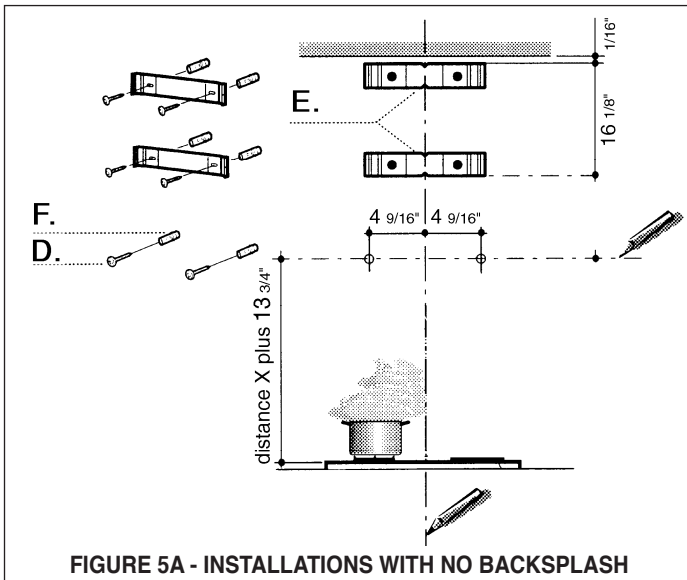

FIGURE 5A - INSTALLATIONS WITH NO BACKSPLASH
3. Based on your ceiling height and/or personal preference, determine the distance you would like between the bottom of the hood and the cooktop (**distance X in FIGURE 4A OR 4B**). Draw a horizontal line the height of **distance X plus 13 3/4"** (as indicated in **FIGURE 5A - INSTALLATIONS WITH NO BACKSPLASH**).
7. For the most secure installation, the MOUNTING SCREWS (**D**) which mount the CANOPY SECTION (**A** in **FIGURE 1**) should be installed into wood. Mark the wall along the horizontal line $4 9/16"$ in from the center line on either side (as indicated in **FIGURE 5A** or **5B**) and install the MOUNTING SCREWS into the wall leaving about $1/4"$ gap between the wall and the head of the screw.